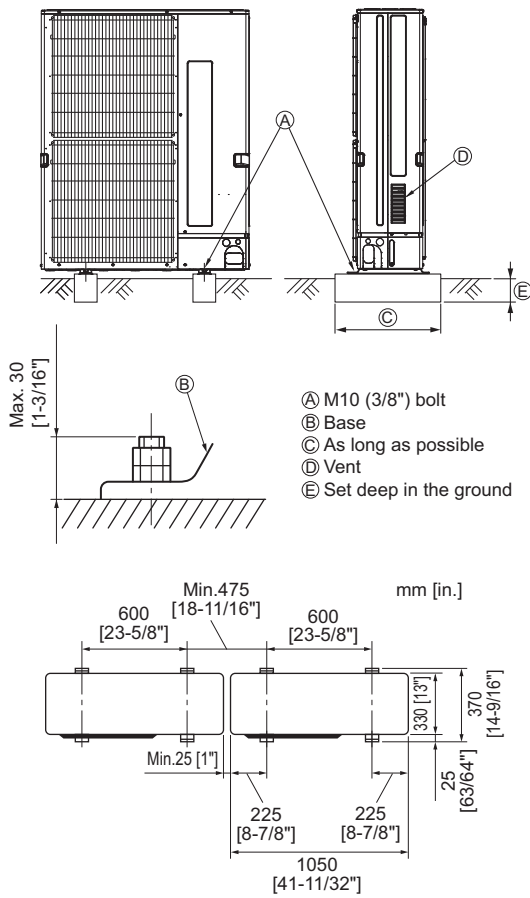

Fig. 12-1-3
A. Be sure to install the unit in a sturdy, level surface to prevent rattling noises during operation. (see Fig. 12-1-3)